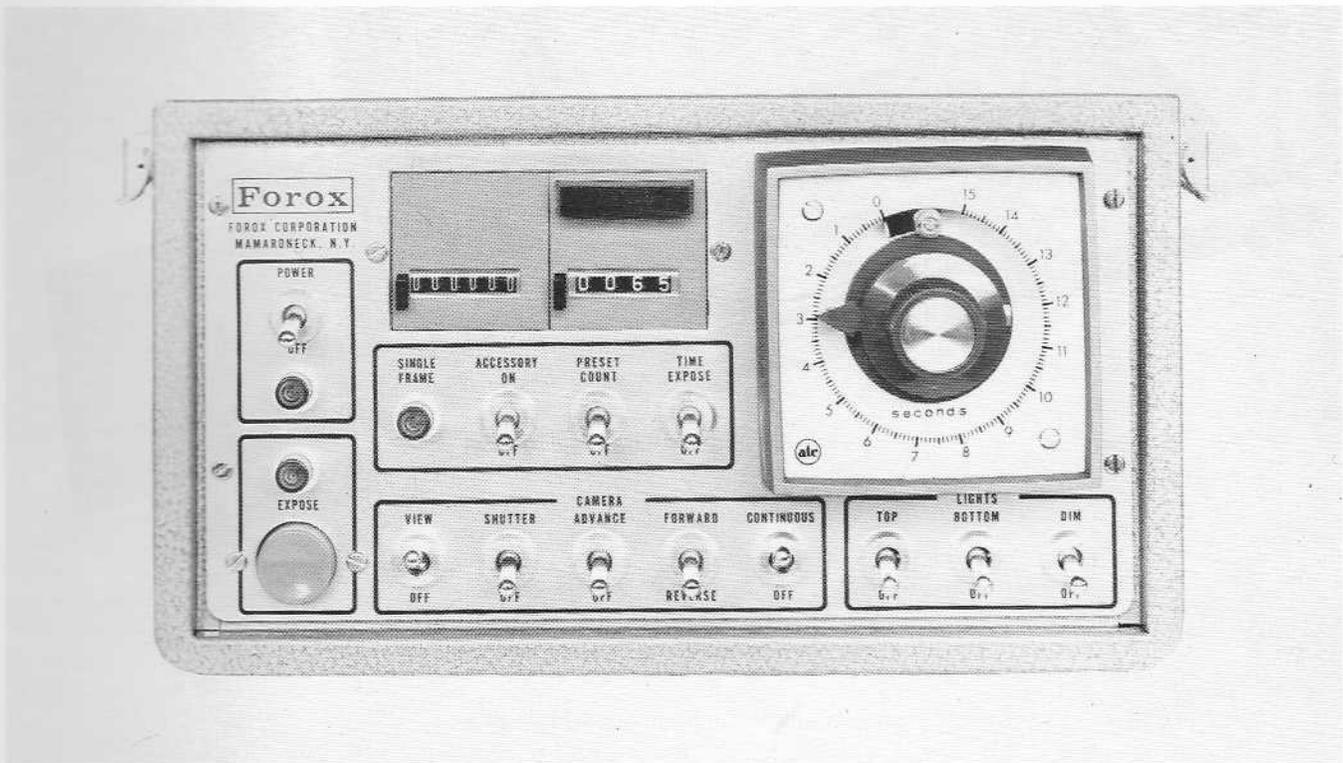

Figure 3. Control Console
**2.7 CONTROL CONSOLE.** Operating controls for the camera and lights are conveniently located on a single control console (see Figure 3). When the EXPOSE button is depressed, all functions switched on are automatically
**3.9 SINGLE FRAME INDICATOR.** When a single frame (filmstrip) aperture is placed in the camera, it actuates the "single frame" switch which supplies voltage to the SINGLE FRAME light (see Figure 3). At the same time, it removes a by-pass connection from one index switch on the advance cam so that the advance cam automatically turns 180° per advance.